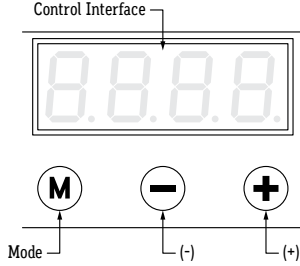

FIGURE 3 (DMX OUTPUT)
- Do not install mounting clips over LED diodes. (Fig. 3)